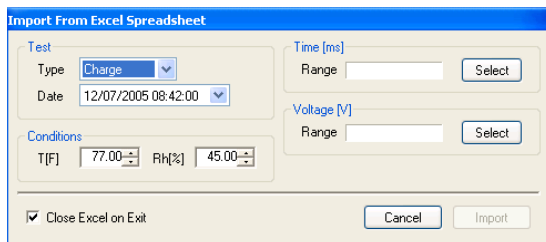

Figure 58: Autoanalysis Excel Spreadsheet Import Window
3. The source file and an Autoanalysis import window (Figure 58) superimposed on the sheet will open. The Import From Excel Spreadsheet window allows designation of the data to be imported for analysis by the PGA-710 program.